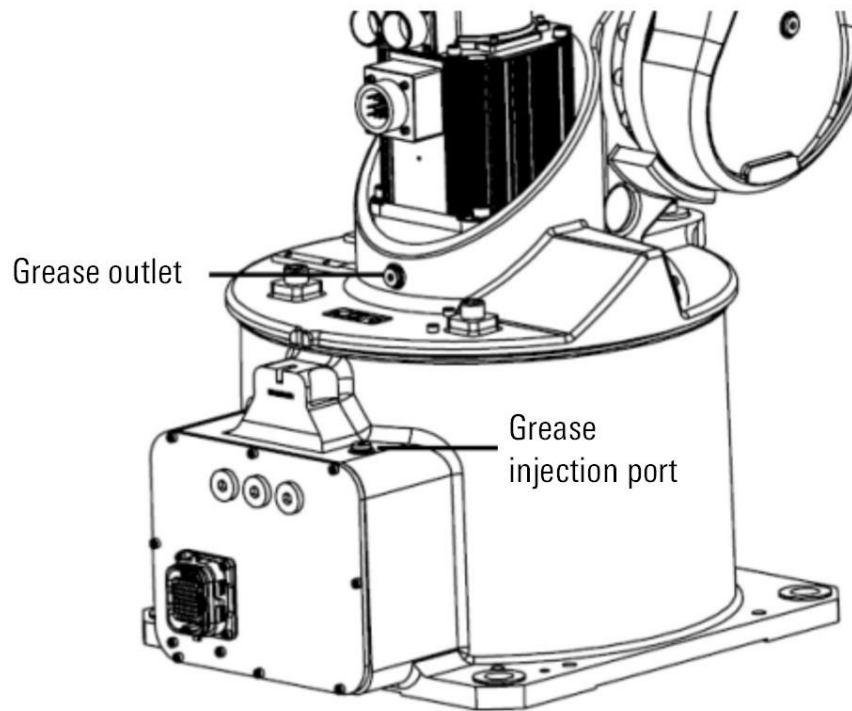

Figure 12-10 Replace the lubricating grease of J1 axis reducer
- Step4. Remove the grease outlet sealing plug and sealing gasket, as shown in Figure 12-10.